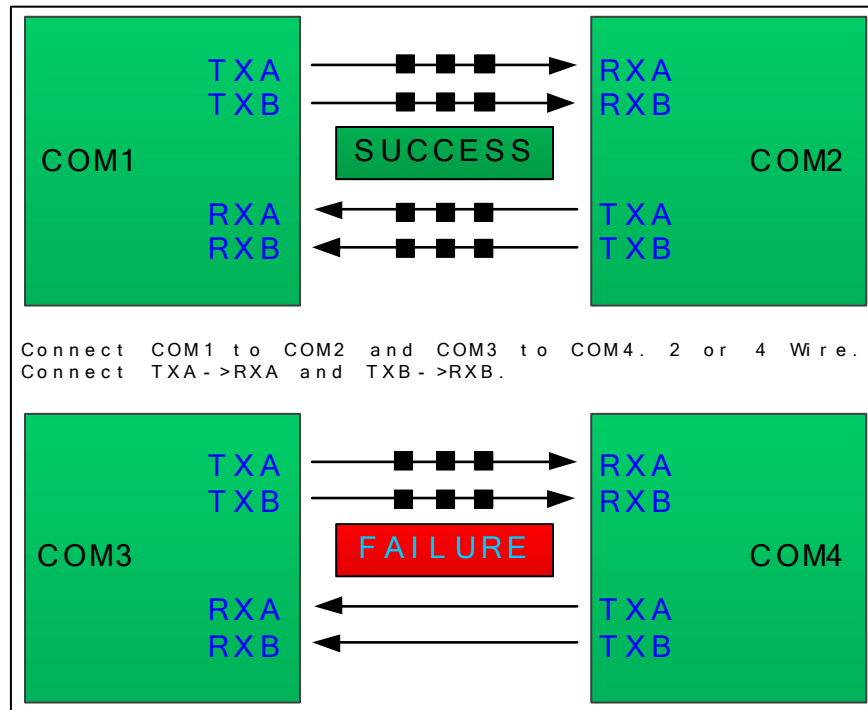

Figure 4-8
Testing the controllers 2 standard and 2 optional communication ports is made easy by connecting the ports together as shown in Figure 4-8 and selecting **SERIAL PORTS** in the diagnostic menu. The controller does a self diagnostic by polling one communication port with the other to ensure correct operation. It gives a **SUCCESS** or
**FAILURE** report. If the optional communication ports 3 and 4 are not installed they will show a failure as illustrated in Figure 4-8.